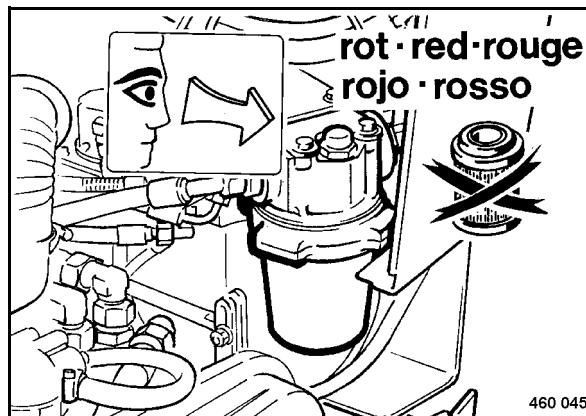

Fig. 81
- If the optical display (Fig. 81) shows red replace the hydraulic oil filter element immediately.